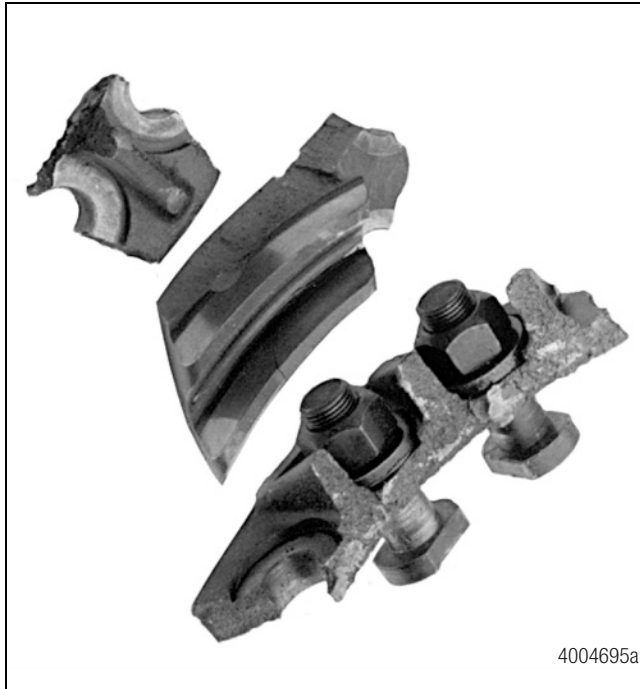

Figure 4.98
**Primary Damage:** The ring gear fractured into many pieces, which indicates severe operating conditions and vehicle overloading. There's also evidence that an engine retarder overloaded the coast side of the ring gear teeth during downhill braking. Figure 4.98.